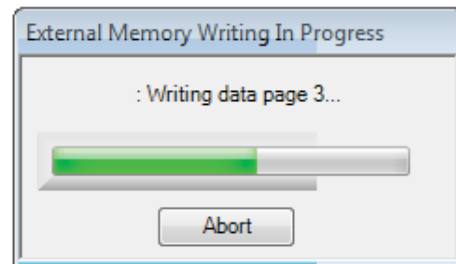

Figure 73. External Memory Write Operation Status Window
10. **SigmaStudio** begins the EEPROM write operation. This operation can take several minutes to complete. Users can view the progress o the write operation with the status window shown in Figure 73. When the window disappears, the operation is complete.